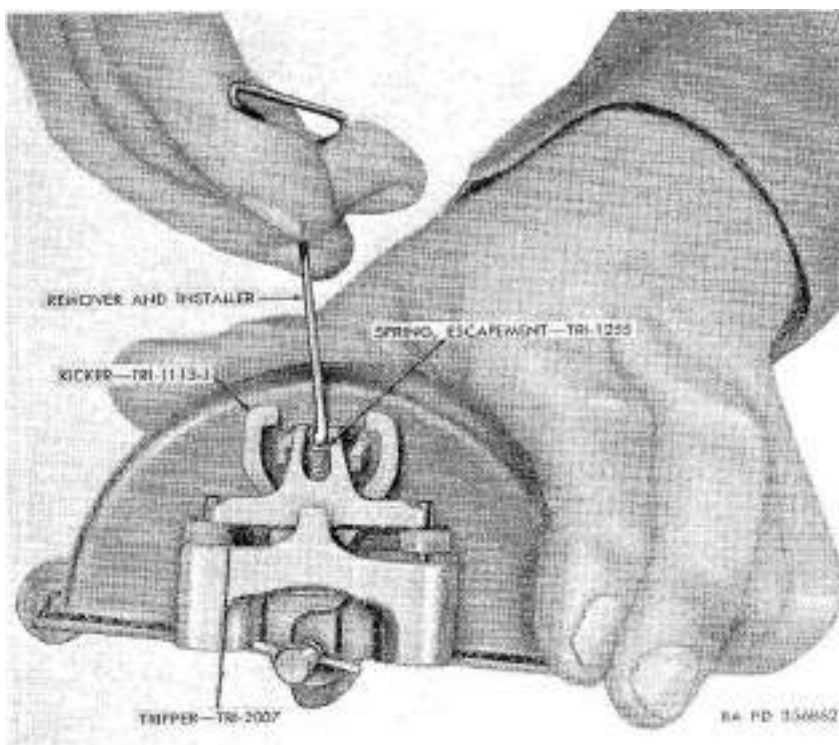
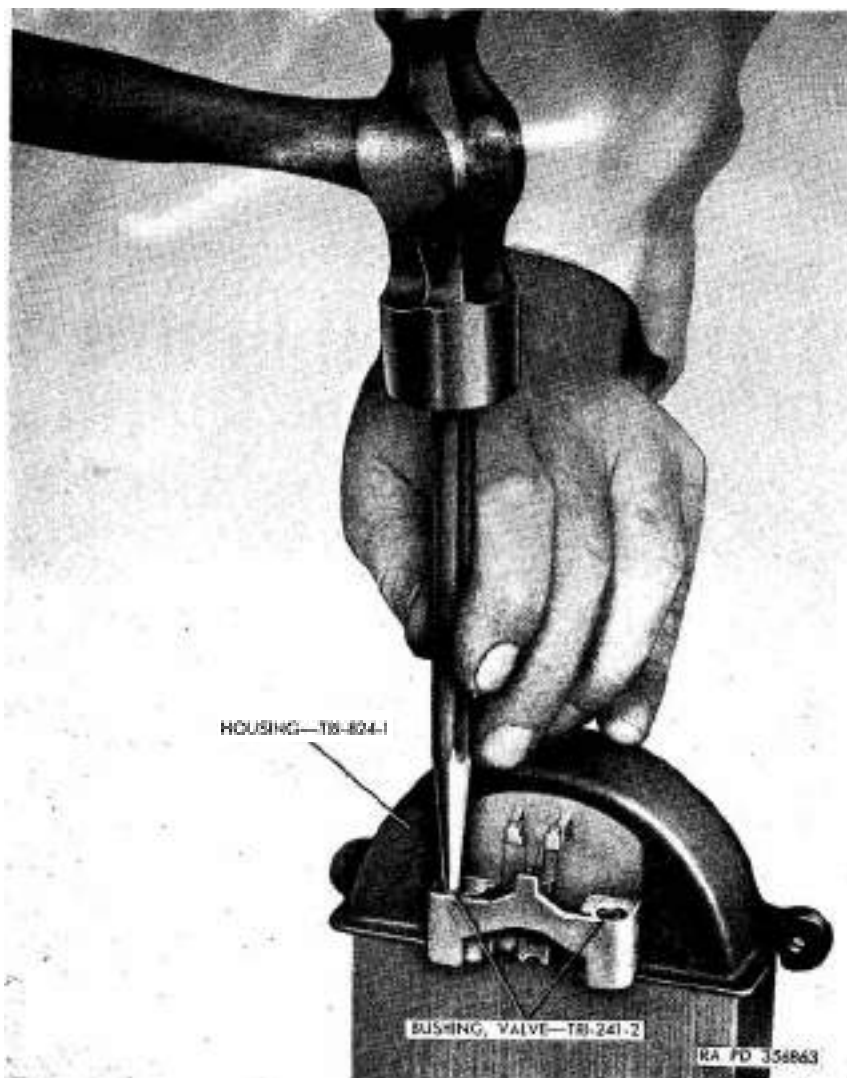

Figure 189. Removing and installing escapement spring with remover installer from kit —41-K-280.
Figure 190. Removing valve bushings.
- (1) Remove two plate and bushing flat-head screws (P). This will release plate and bushing (M) from windshield wiper motor assembly. Remove plate and bushing (M), felt washers (Q), and spacing washer (R). Remove two studs (N) from plate and bushing (M).
- (2) Remove handle set screw (BB) from handle (CC). Remove handle from shaft.
- (3) Remove two valve cover ~~fillister-head~~ lock washer screws (DD). This will release valve cover (EE) from housing (GG).
- (4) Remove cover flat-head screws (C), cover long screws (B), and cover short screws (D). Move top end of kicker (L) from lug on cover assembly (A). Lift cover assembly (A) and gaskets (T and HH) from housing. Discard gaskets. Remove two shut-off valve cover screws (F). This will release shut-off valve cover (E), shut-off valve plate spring (G), shut-off valve retainer plate (H), retainer plate paper pad (J), and shut-off valve (K). Remove control knob (NN) from shut-off valve.
- (5) Disengage escapement spring (X) from tripper (Y) with remover and installer (fig. 189) from kit 14-K-280.
- (6) Remove tripper (Y), valves (W and Z), and felt washers (V and AA). Discard valves and felt washers.
- (7) Remove paddle plate assembly (KK) and paddle shaft (FF). Drive rivet (LL) from paddle plates. This will disengage paddle plate assembly from paddle shaft. Remove metal washers (S and MM). Discard paddle.
- (8) Remove kicker (L) and escapement spring (X). Remove escapement spring from kicker. Discard spring.
- (9) Remove valve bushings (U and JJ) from housing (GG) with a punch and hammer (*fig. 190*). Discard bushings.
- (1) Place new felt washers (V and AA) on valves (W and Z). Insert valves in housing from under side, notched end down, and notches toward center of housing.
- (2) Position tripper (Y) on housing and engage tripper with notches in valves (W and Z).
- (3) Hook remover and installer from kit 41—K-280 over lower end of escapement spring (X) and attach spring to tripper (fig. 189).